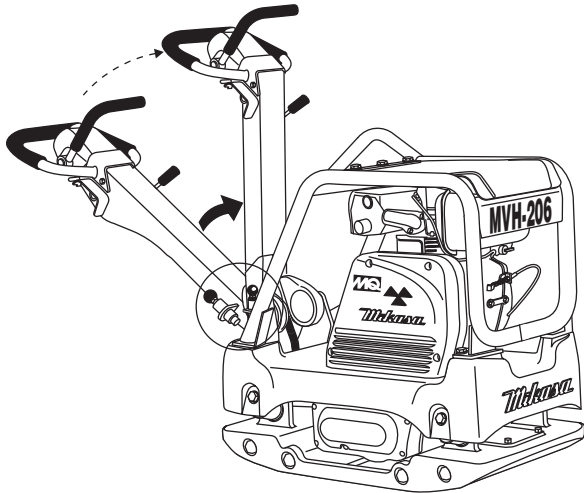

Figure 23. Stowing the Handle
1. Push up the handle upward (Figure 23) until the handle locks in place.